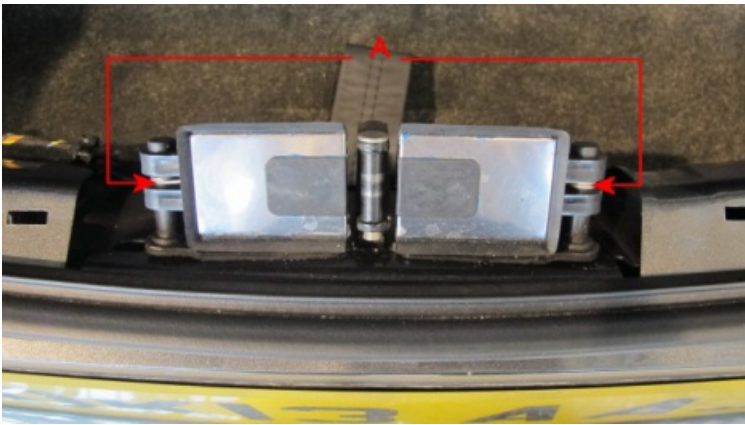

Figure 11
Replace both boot lid striker door springs (A) (see Figure 11). First replace the left hand spring using the right hand as a reference